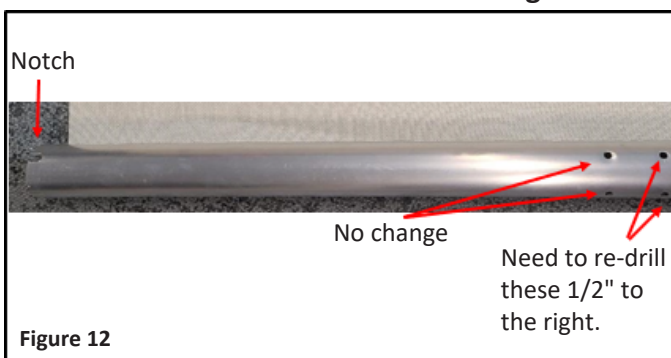

Figure 12
See Figure 12.
18. Orient the roller bar and fabric in front of you with the notched end on the left. See **Figure 12**.